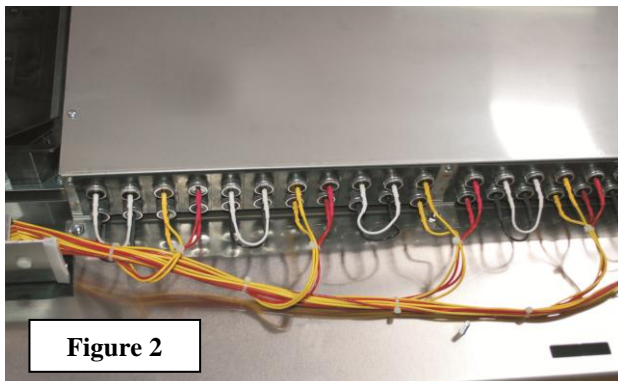

Figure 2
NOTE: Prior to disconnecting any of the wiring harness, observe how the unit is currently wired. **See Fig. 2 on page 6. Here are a few helpful tips.**
3) Starting at the end closest to the fan – take the first group of 4 lamps and disconnect the white and black jumpers. Then, on the other side of the lamp, disconnect the red and yellow wires. See Figures 2, 3, & 4.